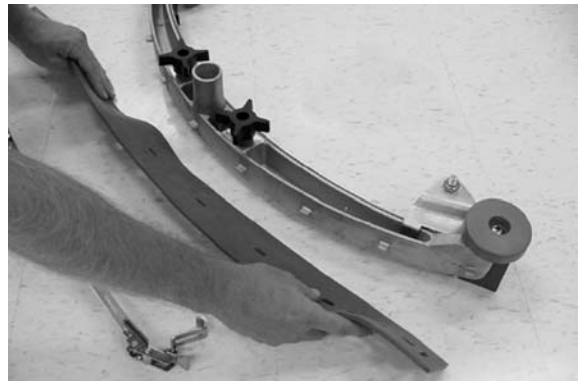

FIG. 37
3. Rotate the rear blade to a new wiping edge and reinstall the band (Figure 37).